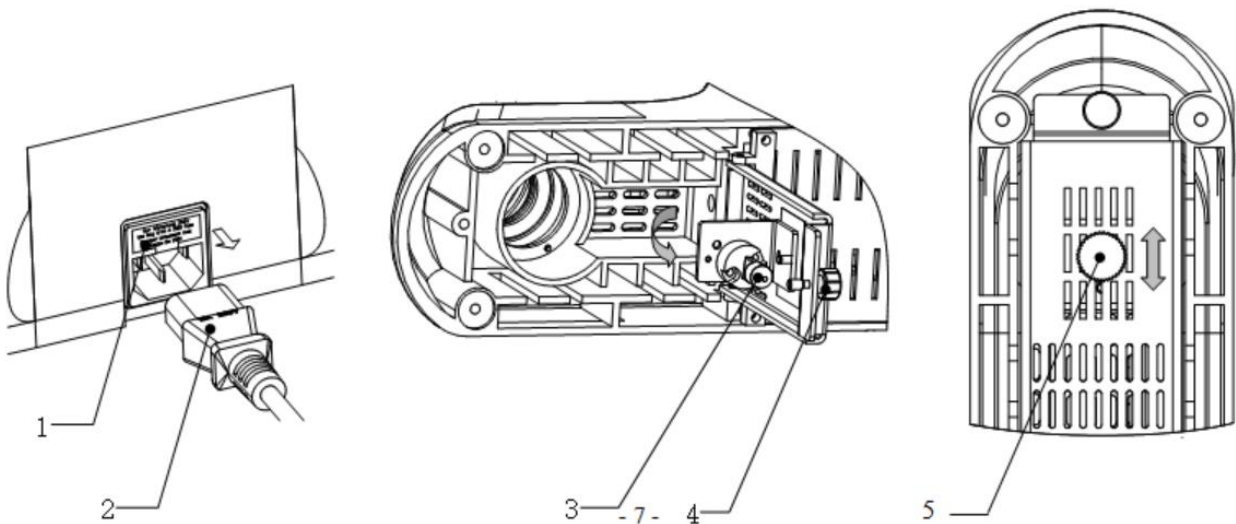

Fig.10
- (1) Turn off the power switch, and unplug the power cord2, as shown in Fig.10
- (2) Wait at least 10 minutes until the bulb and its surrounding have cool down. This is to prevent hand getting burnt.
- (3) Take out the screws4, and pull out the lamp house cover, take out the bad bulb3, and place the new one.
- (4) If you want to adjust the position of the bulb , you can Loosen the adjustment screw and move the bulb Front and